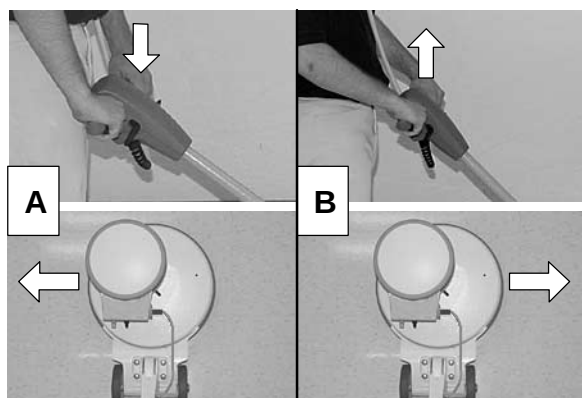

FIG. 13
6. To move the machine left (A), slightly lower the handle. To move right (B), slightly raise the handle. Operate the machine with a side to side motion (Figure 13).